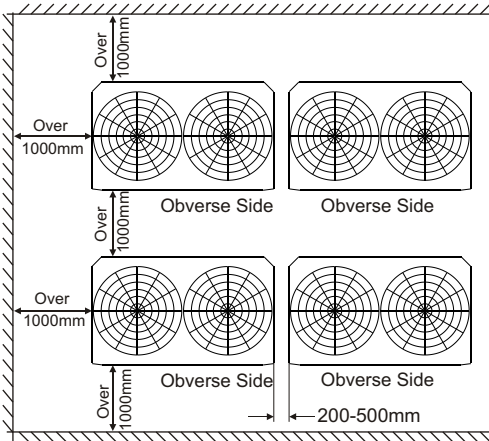

Figure 3-10.4
- 4) Please refer to Figure 3-10.4 when the outdoor units are higher than surrounding obstacles and arrange in two lines.